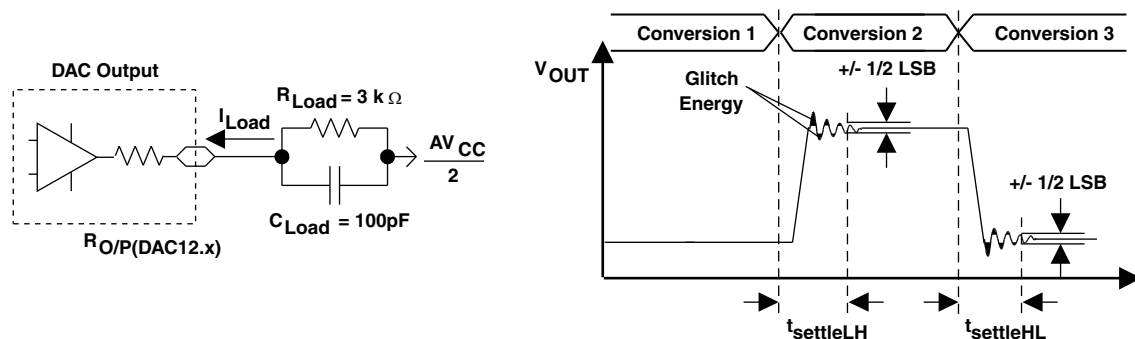

Figure 4-46. Settling Time and Glitch Energy Testing
(1) R_{Load} and C_{Load} are connected to AV_{SS} (not $AV_{CC}/2$) in Figure 4-46.
(2) Slew rate applies to output voltage steps ≥ 200 mV.